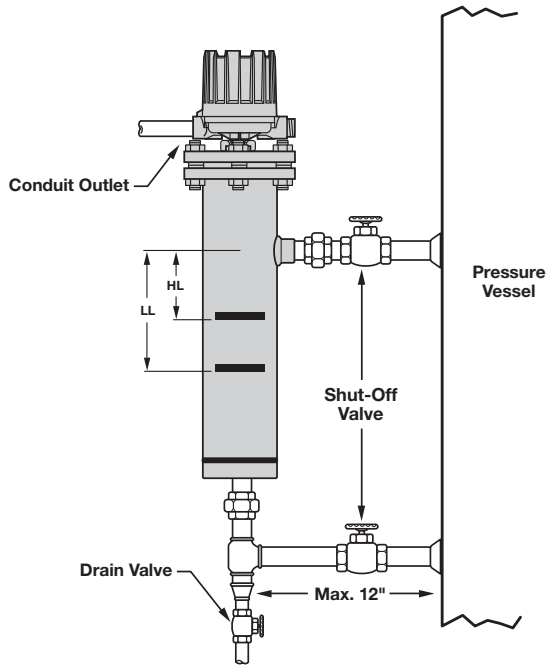

Figure 3
Figure 3 shows a typical piping installation of a displacer control to a pressure vessel. An instruction tag secured to the control gives dimensional data on switch actuating levels referenced from center line of upper side tank connection. Position control so that actuating levels correspond with the desired liquid level trip points in process vessel.
6. If switch magnet assembly swings freely and mechanism still fails to actuate, check installation of control to be certain it is within the specified three degrees of vertical. Use spirit level on side of enclosing tube in two places, 90° apart. Refer to Figure 3 on page 5.